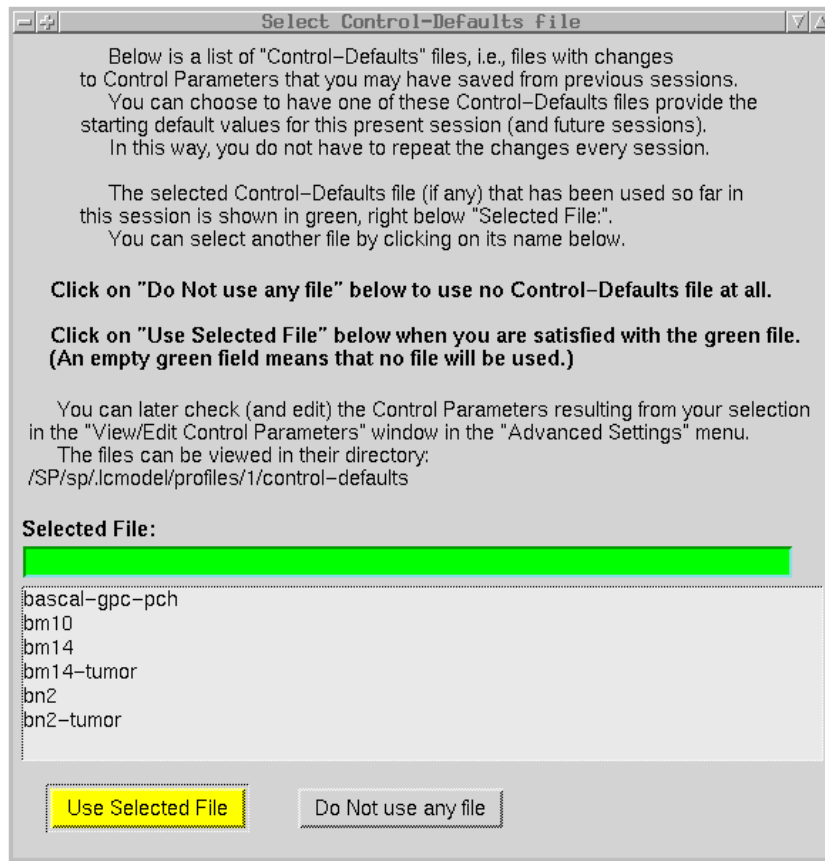

Figure 7.10: Here you select the Control-Defaults file to be used now and in the future.
- Click on "Change Control-Defaults File" to produce the window in Fig 7.10. (If there is no Control-Defaults file in your directory, then you will be told this and given the chance to continue.)
- As explained in Fig 7.10, you can select a new Control-Defaults File by clicking on its name, which then appears in the green field.